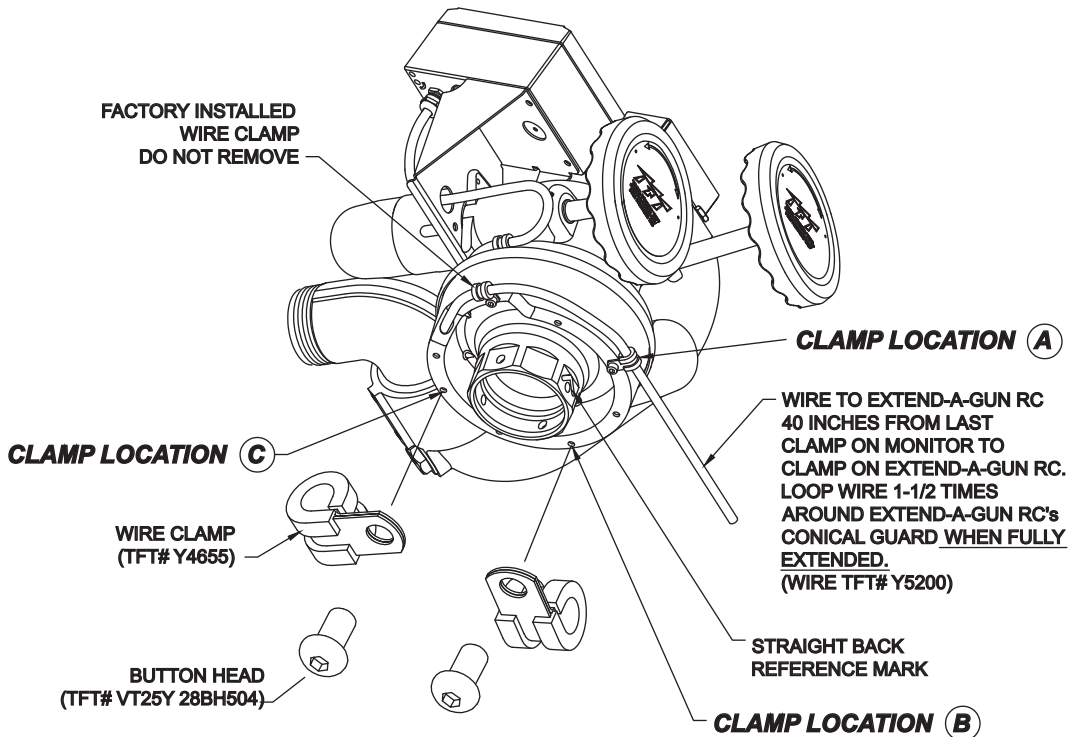

FIG 4.2C
***** SEE FIG 4.2C *****
The Extend-A-Gun RC manual override knob may be mounted in any one of four possible orientations (90 degrees apart). Install additional wire clamps as in this Figure and FIG 4.2C. Measure 40 inches of wire between the last wire clamp on the monitor and the wire clamp on the Extend-A-Gun RC. Install the wire so that it winds one and a half times around the Extend-A-Gun RC Conical Guard - WHEN EXTEND-A-GUN RC IS FULLY EXTENDED.